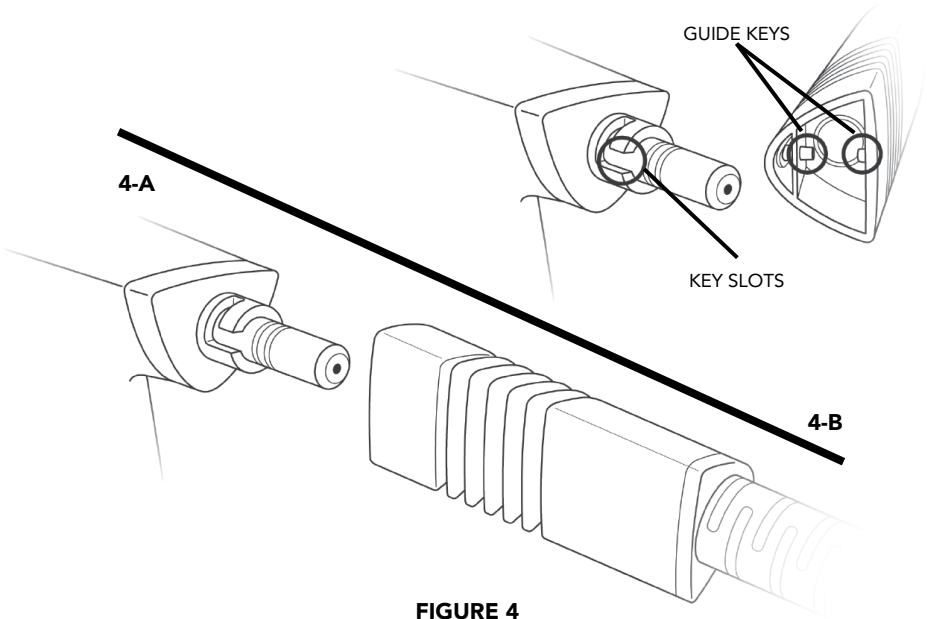

FIGURE 4
1. Align female end of Extension Hose with Steam Nozzle (FIGURE 4-A). Guide keys on Extension Hose should line up with key slots on base of Steam Nozzle (FIGURE 4-B).